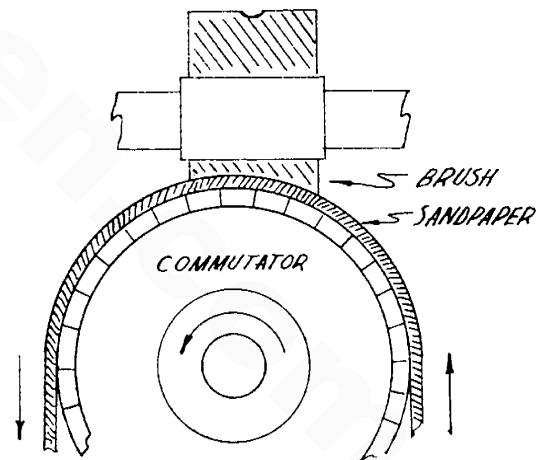

Fig.61 Sanding Distributor Brushes
(3) On models belt driven from fly-wheel, remove belt, remove nut holding generator pulley to shaft, remove bolts holding generator to fly-wheel housing, and carefully pull generator away from housing.
(4) On models belt driven from water pump, remove belt adjusting screw, belt, and hinge bolt.
(5) Loosen clamping screw and remove head band.
(6) Remove brushes from brush holder.
(7) Place new brushes in brush holders.
(8) Draw a piece of 00 sandpaper between the brushes and in the direction of the brush holder to properly seat the brush against the commutator. See Fig. 61.
(9) Blow out accumulated sand and dust and replace head band.
(1) Disconnect starting motor wiring.
(2) Remove bolts holding starting motor to flywheel housing.
(3) Remove motor from housing.
(4) Loosen the clamping screw and slide head band off motor.
(5) Remove brushes from holders. If brush lead is riveted to brush holder, remove the rivet. If brush lead is soldered to field coil line, unsolder and bend open the loop on the field coil lead.
(6) Install new brushes. Be sure bevel of brush fits the commutator.
(7) Draw a piece of 00 sandpaper between the brushes and in the direction of the brush holder to properly seat the brush against the commutator. See Fig. 61.
(8) Blow out sand and dust and replace motor on engine.